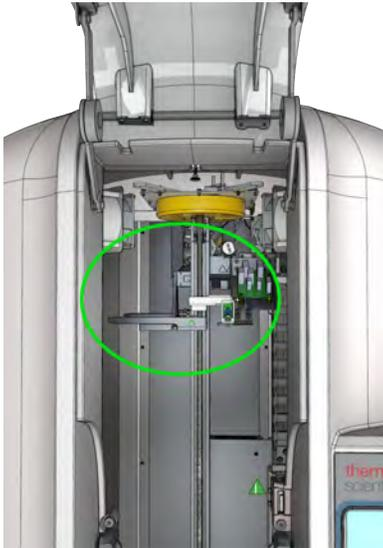

Figure 30 Suggested position of the Gripper Arm
7. Slowly and gently relocate the Gripper Arm to the position shown in Figure 30.